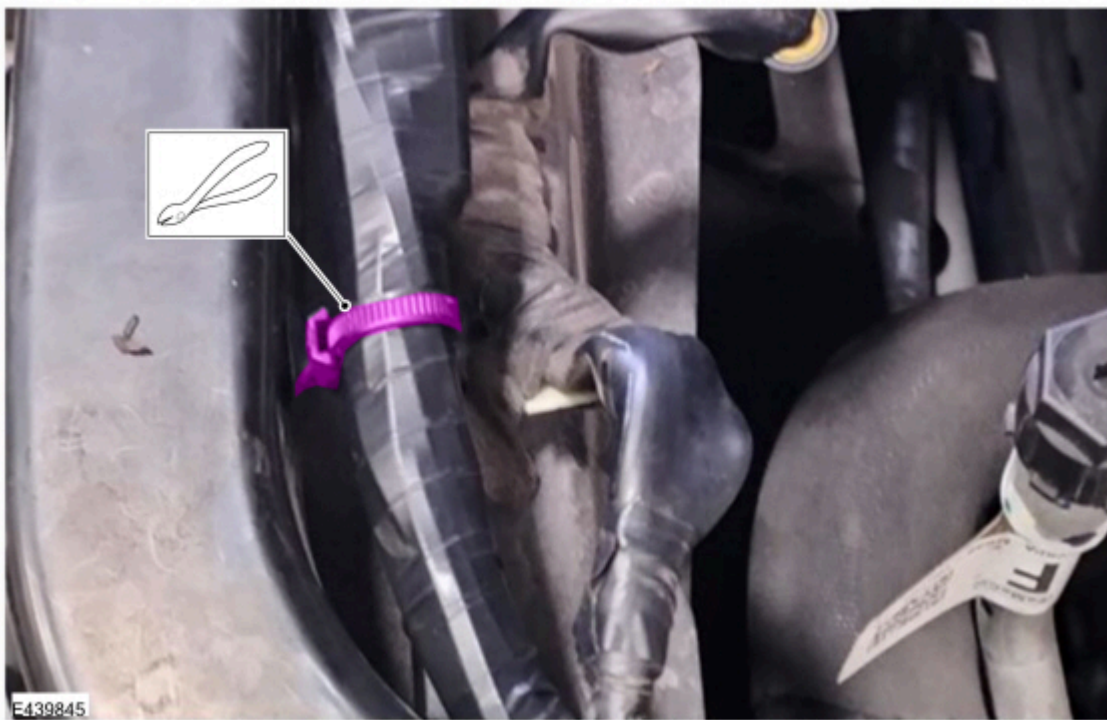

Figure 10
3. Cut the cable tie to remove the cooling fan connector for repair. (Figure 10)